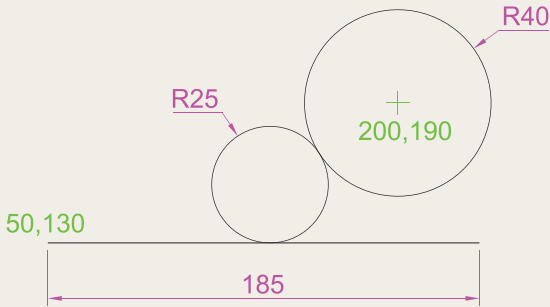

Fig. 2.32 Exercise 5
- In an **acadiso.dwt** screen and using the **Circle** and **Line** tools, construct the line and the circle of radius 40 shown in Fig. 2.32. Then, using the **Ttr** prompt, add the circle of radius 25.